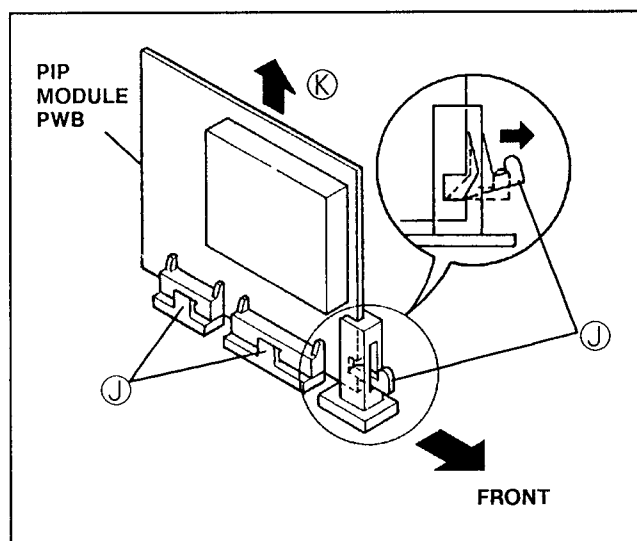

Fig.2
1. While widening the claws marked ㉝ as shown in Fig. 2.
2. Raise the PIP MODULE in the arrow direction marked ㉞ as shown in Fig. 2.
Then press the LEFT / RIGHT key of the menu, and get the SET CLOCK screen of Fig. 2.
2] Using the LEFT/RIGHT and UP/DOWN keys, set the time at 3:21 AM. (Fig. 2)
(Fig. 2)